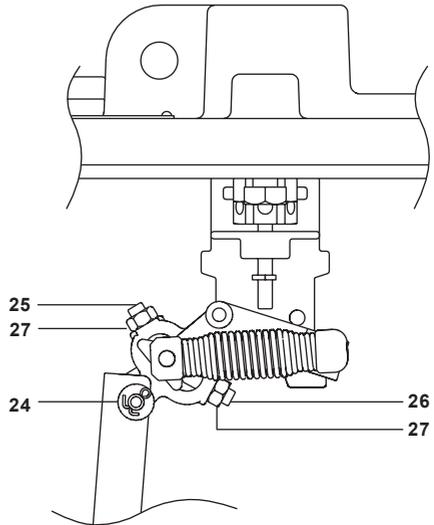

Fig. 12
Note: The socket set screws (Fig. 12 items 25, 26) are factory set and must not be disturbed during the following maintenance procedures.
- a. Remove shaft (item **24**, Fig. 12) from mechanism end of connector rod and rotate float and connector rod to opposite side of pillar.